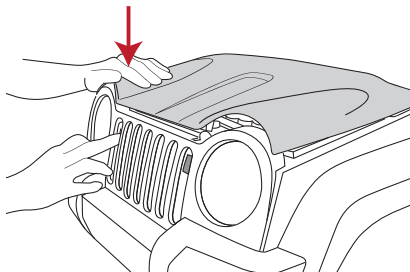

Figure 17
- To CLOSE the hood press one of the black buttons with one hand and push down the hood with the other. See Figure 17.